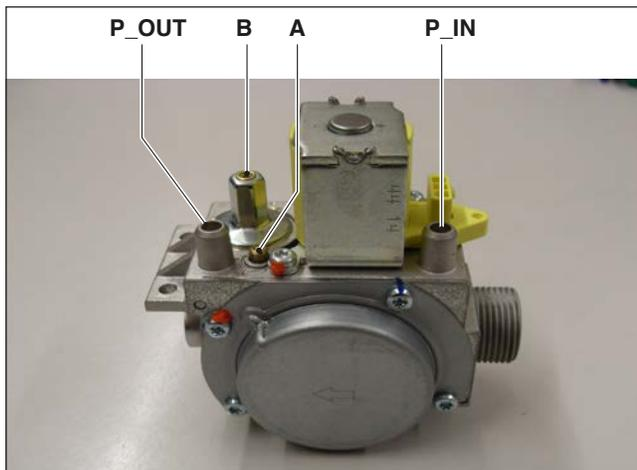
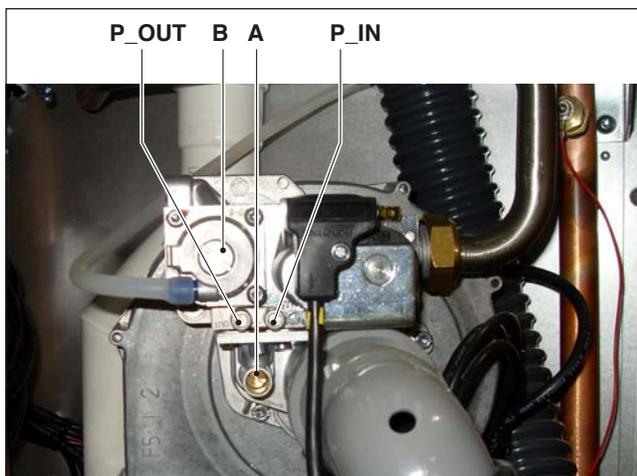

Fig. 46 Gas supply line SSB85 - SSB120
Fig. 47 Gas supply line SSB160
- [7] If necessary bleed the gas supply line of air by using the supply pressure port ("P IN") see Fig. 46 - Fig. 47;
- [4] Select "High Power" using the up/down arrow keys ▲ / ▼. The burner will start and run at maximum rpm. Adjust the CO₂ value until it is between the range reported in table 7. To increase the CO₂ turn the proportional control screw, "A" (Fig. 46 - Fig. 47), counter-clockwise ↺ (all models);
- [5] Select "Low Power" using the up/down arrow keys ▲ / ▼. The burner will modulate and run at minimum rpm. Adjust the CO₂ value until it is between the range reported in table 7. To increase the CO₂ turn the proportional control screw, "B" (Fig. 46 - Fig. 47), clockwise ↻ (all models).